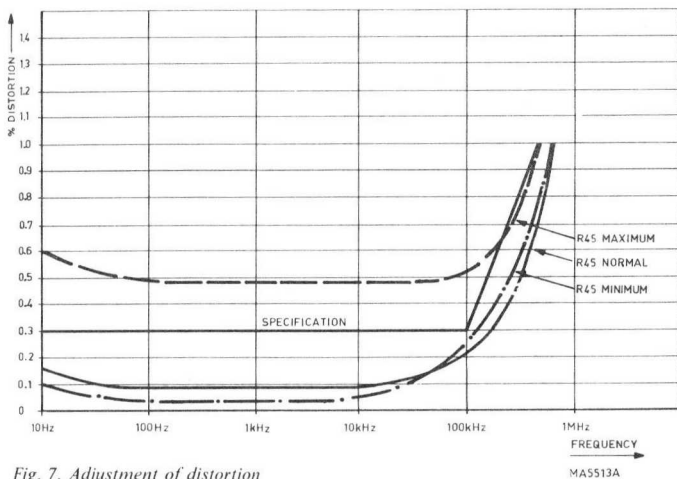

Fig. 7. Adjustment of distortion
- A higher distortion and a lower settling time are obtained, when R45 is turned clockwise. (see Fig. 7)